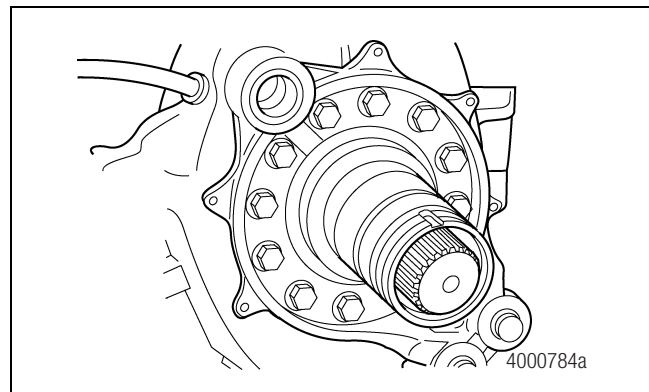

Figure 6.12
5. Install the brake spider onto the spindle. Fasten all parts to the knuckle with 12 capscrews and washers. Tighten to the correct torque. Refer to Section 8. Figure 6.12.
7. On units equipped for ABS, install the ABS cable and grommet into the knuckle. Install the ABS sensor into the ABS bushing in the spindle. Figure 6.12.